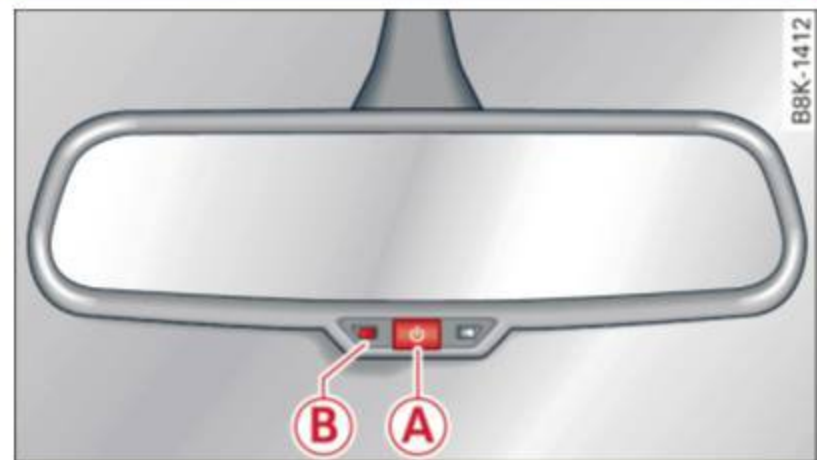

Fig. 41 Automatic dimming rearview mirror*
▶ Press the button **A** ⇒ *fig. 41*. The indicator light **B** turns on. The rearview and exterior* mirrors dim automatically when light shines on them, for example from headlights on a vehicle to the rear.